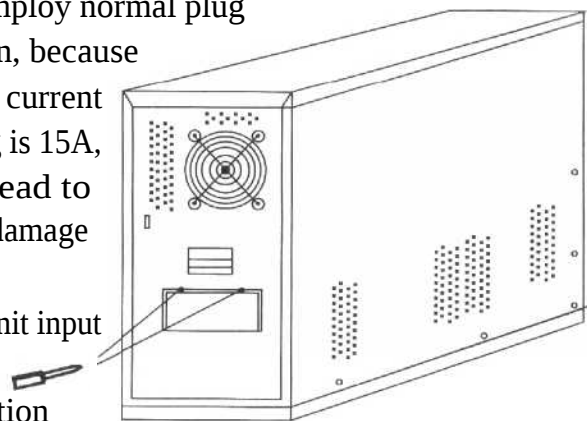

Figure 4
- a. Unscrew the nail as shown in figure 4